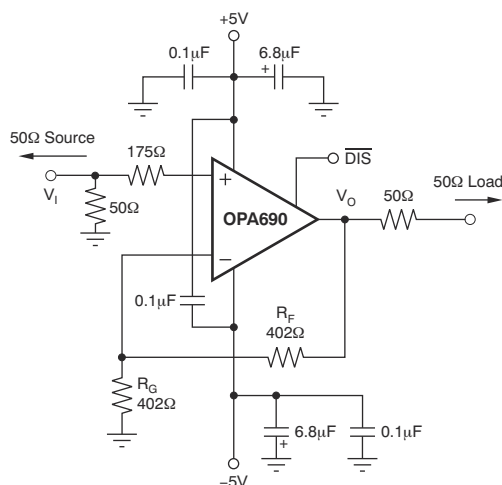
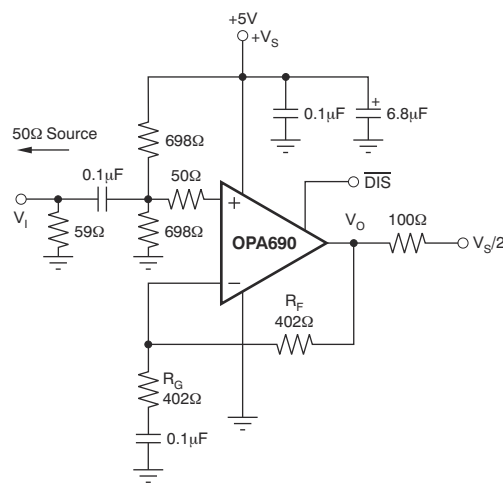

Figure 7-1. DC-Coupled, $G = 2\text{ V/V}$, Bipolar-Supply Specification and Test Circuit
Figure 7-2. AC-Coupled, $G = 2\text{ V/V}$, Single-Supply Specification and Test Circuit
at $T_A = 25^\circ C$, $G = 2$, $R_F = 402\Omega$, and $R_L = 100\Omega$ (unless otherwise noted); see Figure 7-1 for ac performance only
at $T_A = 25^\circ\text{C}$, $G = 2$, $R_F = 402\Omega$, and $R_L = 100\Omega$ (unless otherwise noted); see Figure 7-1 for ac performance only
at $T_A = 25^\circ\text{C}$, $G = 2$, $R_F = 402\Omega$, and $R_L = 100\Omega$ (unless otherwise noted); see Figure 7-2 for ac performance only
Figure 7-1 shows the dc-coupled, gain of 2 V/V, dual power-supply circuit configuration used as the basis of the Section 6.11. For test purposes, the input impedance is set to 50 Ω with a resistor to ground and the output impedance is set to 50 Ω with a series output resistor. Voltage swings reported in the specifications are taken directly at the input and output pins, while output powers (dBm) are at the matched 50- Ω load. For the circuit of Figure 7-1, the total effective load is 100 $\Omega \parallel 804 \Omega$. The disable control line is typically left open to maintain normal amplifier operation. An additional resistor (175 Ω) is included in series with the noninverting input. Combined with the 25- Ω DC source resistance looking back towards the signal generator, this gives an input bias current canceling resistance that matches the 200- Ω source resistance seen at the inverting input (see Section 8.1.8). In addition to the usual power-supply decoupling capacitors to ground, a 0.1- μ F capacitor is included between the two power-supply pins. In practical printed-circuit board (PCB) layouts, this optional-added capacitor typically improves the 2nd-harmonic distortion performance.
Figure 7-2 shows the AC-coupled, gain of 2, single-supply circuit configuration which is the basis of the 5 V and Section 6.12. Although not a rail-to-rail design, the OPA690 requires minimal input and output voltage headroom compared to other very wideband voltage-feedback op amps. The device delivers a 3-V_{PP} output swing on a single 5-V supply with > 120-MHz bandwidth. The key requirement of broadband single-supply operation is to maintain input and output signal swings within the useable voltage ranges at both the input and the output. The circuit of Figure 7-2 establishes an input midpoint bias using a simple resistive divider from the 5-V supply (two 698- Ω resistors). The input signal is then ac-coupled into the midpoint voltage bias. The input voltage can swing
Voltage-feedback op amps exhibit decreasing closed-loop bandwidth as the signal gain is increased. In theory, this relationship is described by the gain bandwidth product (GBP) shown in Section 6.5 and Section 6.7. Ideally, dividing GBP by the noninverting signal gain (also called the noise gain, or NG) predicts the closed-loop bandwidth. In practice, this relationship only holds true when the phase margin approaches 90°, as in high-gain configurations. At low gains (increased feedback factors), most amplifiers exhibit a more complex response with lower phase margin. The OPA690 is compensated to give a slightly peaked response in a noninverting gain of 2 V/V (see Figure 7-1). This compensation results in a typical gain of 2 bandwidth of 220 MHz, far exceeding that predicted by dividing the 300 MHz GBP by 2. Increasing the gain causes the phase margin to approach 90° and the bandwidth to more closely approach the predicted value of (GBP/NG). At a gain of 10, the 30-MHz bandwidth shown in the ± 5 -V *Electrical Characteristics* agrees with that predicted using the simple formula and the typical GBP of 300 MHz.
The frequency response in a gain of 2 V/V can be modified to achieve exceptional flatness by simply increasing the noise gain to 2.5. One method, without affecting the two signal gain, is to add an 804- Ω resistor across the two inputs in the circuit of Figure 7-1. A similar technique can be used to reduce peaking in unity-gain (voltage-follower) applications. For example, by using a 402- Ω feedback resistor along with a 402- Ω resistor across the two op amp inputs, the voltage follower response is similar to the gain of 2 response of Figure 7-2. Reduce the value of the resistor across the op amp inputs to further limit the frequency response due to increased noise gain.
The OPA690 is a general-purpose, wideband voltage-feedback op amp; therefore, all of the familiar op amp application circuits are available to the designer. Inverting operation is one of the more common requirements and offers several performance benefits. Figure 8-1 shows a typical inverting configuration where the I/O impedances and signal gain from Figure 7-1 are retained in an inverting circuit configuration.
The second major consideration, touched on in the previous paragraph, is that the signal source impedance becomes part of the noise gain equation and influences the bandwidth. For the example in Figure 8-1, the R_M value combines in parallel with the external 50- Ω source impedance, yielding an effective driving impedance of $50\ \Omega \parallel 67\ \Omega = 28.6\ \Omega$. This impedance is added in series with R_G for calculating the noise gain (NG). The resultant NG is 2.8 for Figure 8-1, as opposed to only 2 if R_M can be eliminated as discussed previously. Therefore, the bandwidth is slightly less for the circuit of Figure 8-1 than for the gain of 2 circuit of Figure 7-1.
A good practice is to target the parallel combination of R_F and R_G (see Figure 7-1) to be less than approximately 300 Ω . The combined impedance $R_F \parallel R_G$ interacts with the inverting input capacitance, placing an additional pole in the feedback network, and thus, a zero in the forward response. Assuming a 2-pF total parasitic on the inverting node, holding $R_F \parallel R_G < 300 \Omega$ keeps this pole greater than 250 MHz. Alone, this constraint implies that the feedback resistor R_F can increase to several k Ω at high gains. This result is acceptable as long as the pole formed by R_F and any parasitic capacitance appearing in parallel is kept out of the frequency range of interest.
The OPA690 provides good distortion performance into a 100- Ω load on ± 5 -V supplies. Relative to alternative solutions, this device provides exceptional performance into lighter loads, while operating on a single 5-V supply. Increasing the load impedance improves distortion directly. Remember that the total load includes the feedback network; in the noninverting configuration (see Figure 7-1), this total load is sum of $R_F + R_G$, while in the inverting configuration the total load is just R_F . Also, providing an additional supply-decoupling capacitor (0.1 μ F) between the supply pins (for bipolar operation) improves the 2nd-order distortion.
Evaluating these two equations for the OPA690 circuit and component values (see Figure 7-1) gives a total output spot noise voltage of 12.3 nV/√Hz and a total equivalent input spot noise voltage of 6.1 nV/√Hz. This is including the noise added by the bias current cancellation resistor (175 Ω) on the noninverting input. This total input-referred spot noise voltage is only slightly higher than the 5.5-nV/√Hz specification for the op amp voltage noise alone. This is the case as long as the impedances appearing at each op amp input are limited to the previously recommend maximum value of 300 Ω. Keeping both $(R_F \parallel R_G)$ and the noninverting input source impedance less than 300 Ω satisfies both noise and frequency response flatness considerations. Because the resistor-induced noise is relatively negligible, additional capacitive decoupling across the bias current cancellation resistor (R_B) for the inverting op amp configuration of Figure 8-1 is not required.
The balanced input stage of a wideband voltage-feedback op amp allows good output dc accuracy in a wide variety of applications. Although the high-speed input stage does require relatively high input bias current (typically $\pm 8 \mu\text{A}$ at each input terminal), the close matching can be used to reduce the output dc error caused by this current. The total output offset voltage can be considerably reduced by matching the dc source resistances appearing at the two inputs. This matching reduces the output dc error due to the input bias currents to the offset current times the feedback resistor. Evaluating the configuration of Figure 7-1, and using worst-case 25°C input offset voltage and current specifications, gives a worst-case output offset voltage equal to:
As a worst-case example, compute the maximum T_J using an OPA690-DBV (6-pin SOT-23 package) in the circuit of Figure 7-1 operating at the maximum specified ambient temperature of 85°C and driving a grounded 20-Ω load.